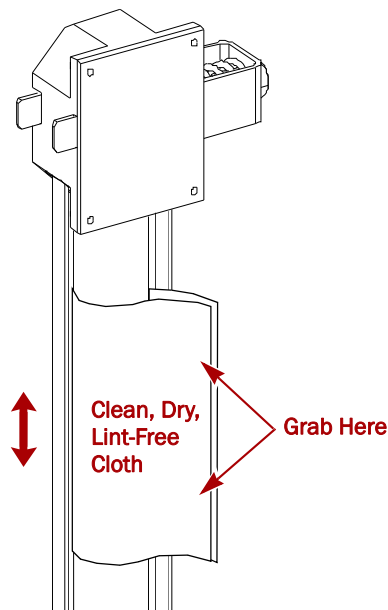

Figure 3-16: Wiping the BDA Pole with Clean, Dry, Lint-Free Cloth
- To clean the pole, wrap the cloth around the pole (Figure 3-16 on page 3-25) and holding the ends together, slide it up and down.